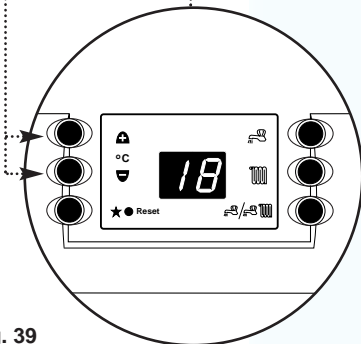

Fig. 39
5. To switch the pre-heat feature back on depress the "+" and "-" Temperature Control Buttons at the same time for 5 seconds. The display will show "18 or 10" (Fig. 39).
3. To switch the system frost protection on: depress the "+" and "-" Temperature Control Buttons at the same time for 5 seconds. The display will show "18 or 10" (Fig. 39).
5. To switch the system frost protection off depress the "+" and "-" Temperature Control Buttons at the same time for 5 seconds. The display will show "18 or 10" (Fig. 39).